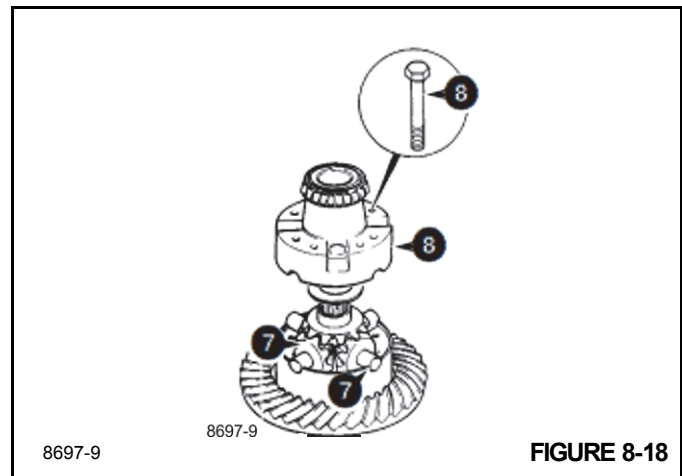

FIGURE 8-18
- Assemble the differential gears and their spherical washers into the bottom half housing (Figure 8-18). Fit the differential bearing cones.